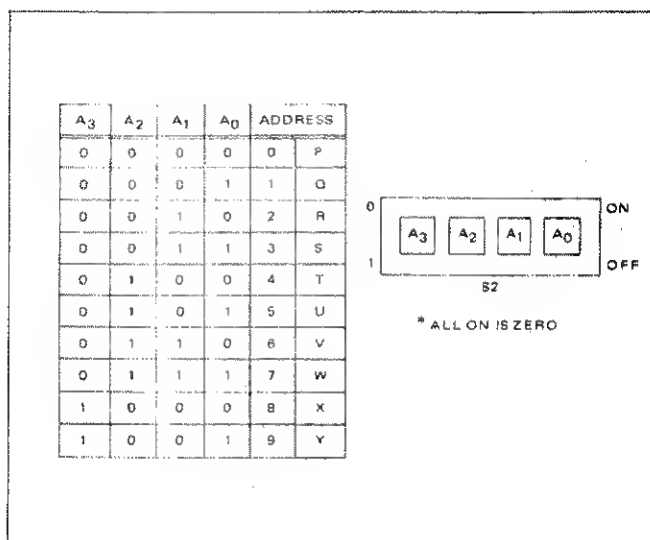

Figure 3.5 - Address Switch Code
3.12.2 The switch code selected represents either a numeric or alphabetic code, 0 through 9 or a corresponding P through Y. The codes are shown in figure 3.5.